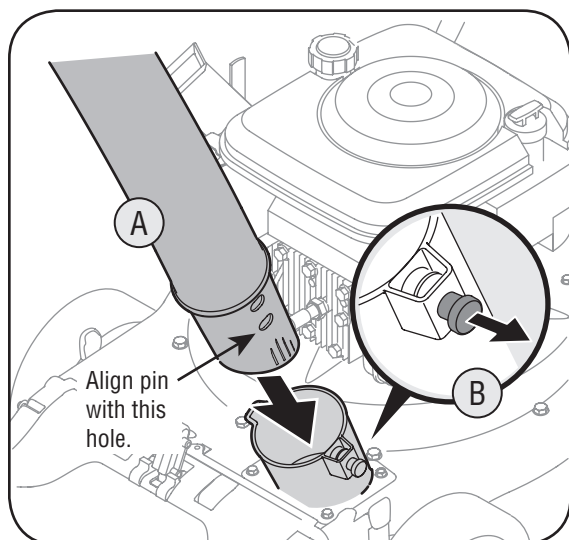

Figure 5
5. a. Slide hose adapter of hose assembly into the base adapter located on the left front of the Yard Vacuum. See Figure 5.